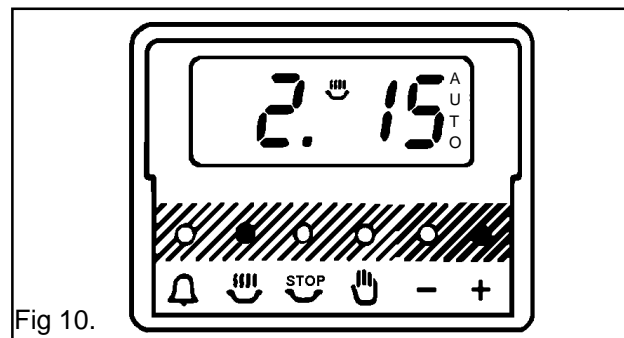

Fig 10.
- iii) To set the Length of Cooking Time press the cooking hours button (🕒) press the increase control (+) until the cooking time is displayed, e.g. 2 hrs 15 mins. Fig. 10.